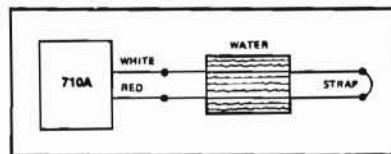

Figure 4-10. Taking a 710A reading.
- Measure the length of the cable with a 710A fault locator (see Figure 4-10).